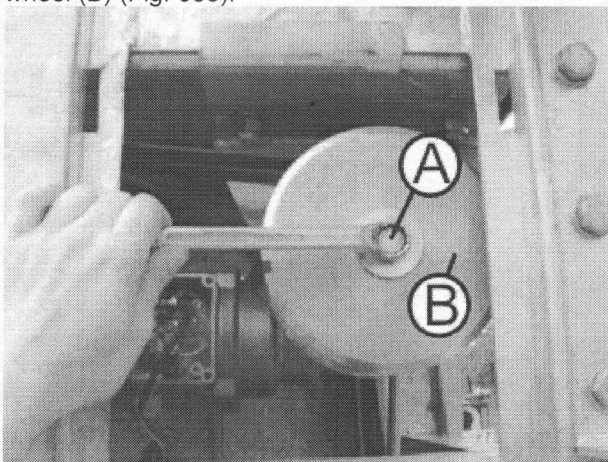

Fig. 086
6. Loosen safety screw (A) of the pulleys and remount without washer. Remove first separating wheel (B) (Fig. 086).